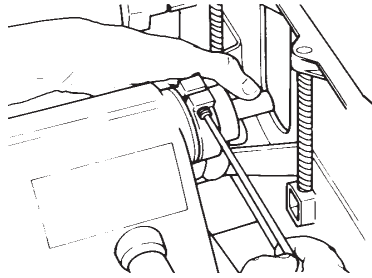

Figure C-85
3. Mount the lower saw guard on the quill so that the stop screw below the collar butts against the stop collar on the quill. Align the ridge on the headstock with the slot in the collar. Tighten the screw on the collar. See Figure C-85. Loosen the two knobs and slide the guard cover to the right.